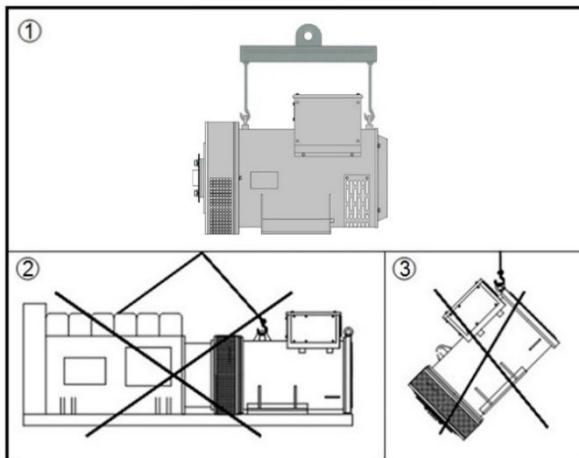

Figure 3.1: Handling of alternator
- The positions **1** on Figure 3.1, represent the proper way of handling alternators and positions **2** and **3** show the wrong ways;